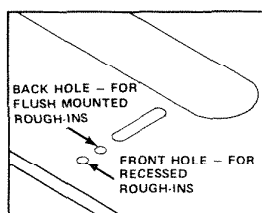

FIGURE 12
1. For rough-in frames which are recessed into the wall opening. Insert two No. 6 x 3/8" screws (provided) into the front two holes in the rough-in frame. Do not completely tighten screws. See Figure 12.
2. For rough-in frames which are mounted flush with the wall. Insert two No. 6 x 3/8" screws (provided) into the back two holes in the rough-in frame. Do not completely tighten screws. See Figure 12.